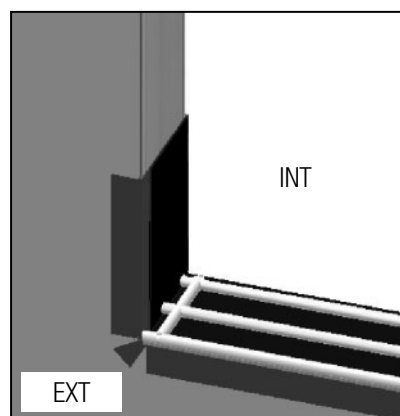

FIG. 12
- Apply a 1/4" continuous bead of silicone 1/2" from each side of the rough opening. The bead will run the entire depth of the jamb starting at the face of the wall. (Fig. 12)